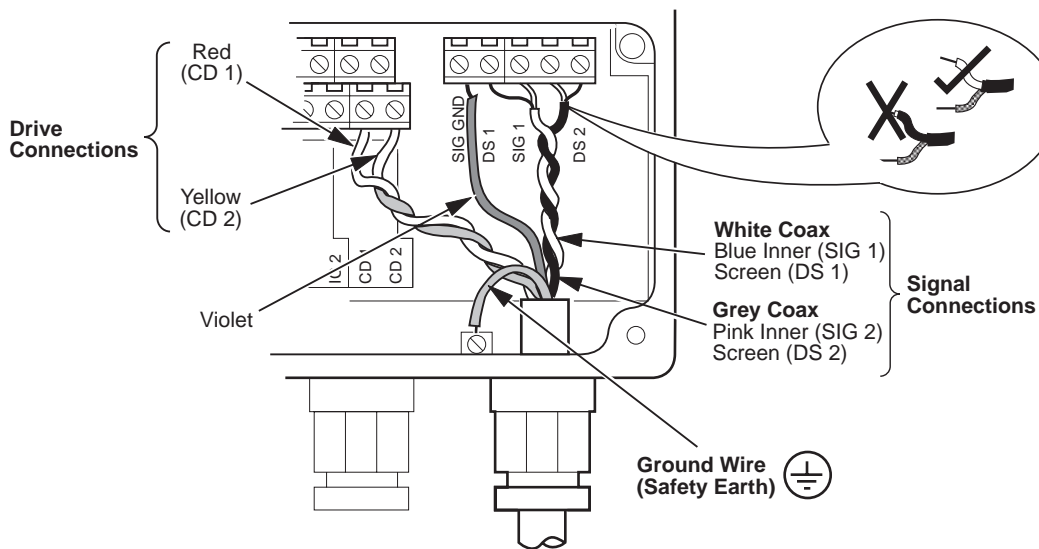

Fig. 3.7 Sensor Cable Connections
3.5 Transmitter Sensor Cable Connections (Remote Transmitter) Fig. 3.7